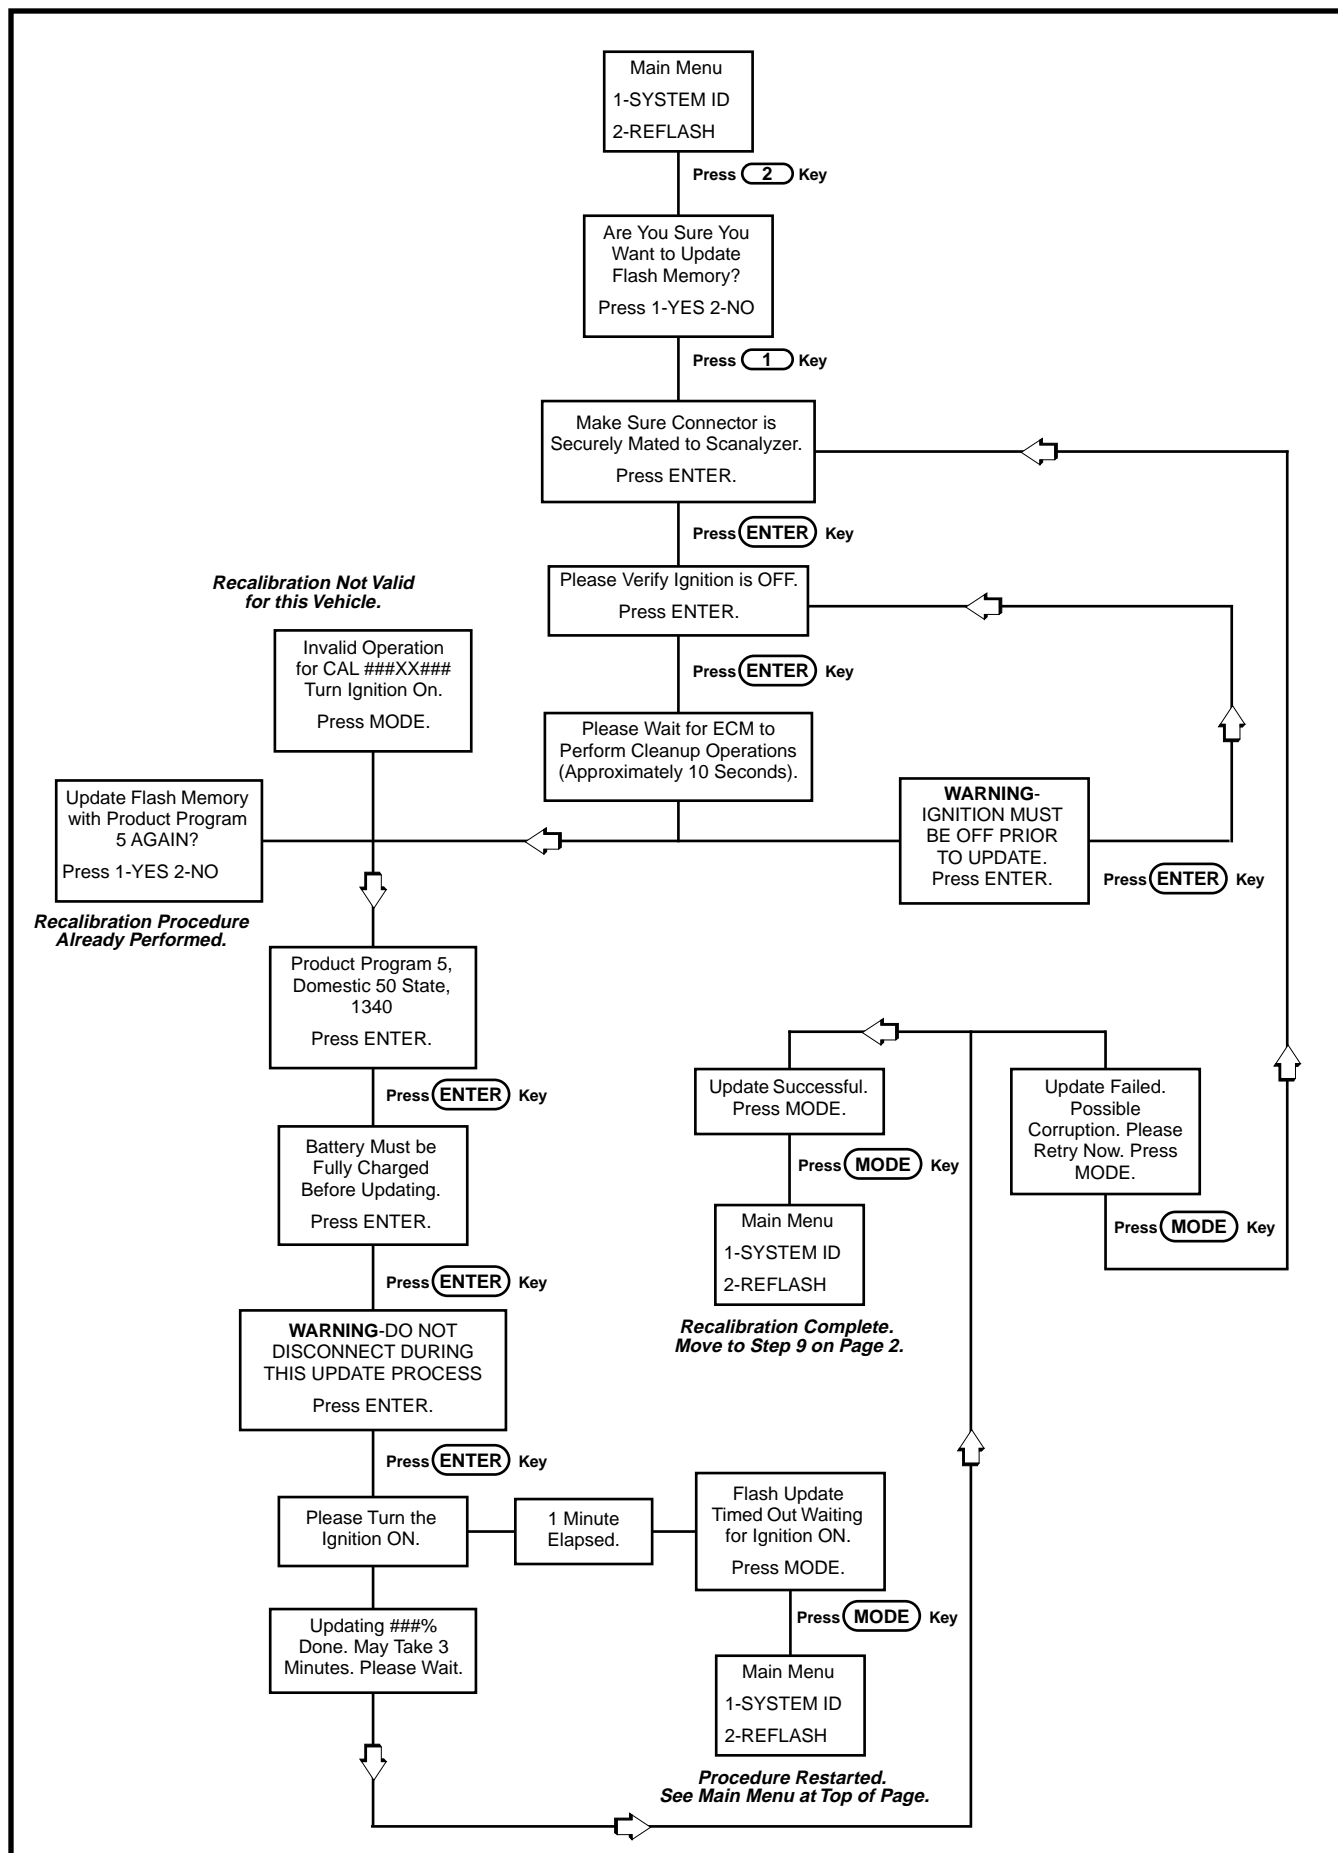

Figure 3. ECM Recalibration Routine
- If the Scanalyzer data display reads "CAL. 220AG338" then the recalibration still needs to be performed. Press the Mode key to return to the Main Menu and then follow the flow chart in Figure 3 to recalibrate the ECM.